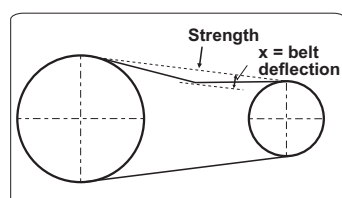

FIGURE 1
- Line up the motor's pulley with the compressor's flywheel and adequately stretch the transmission belts, as shown in Figures 1 and 2 (the belt deflects (x) from 9 to 13 mm [3/8" to 1/2"] in its medium point under manual strength).
Loose or unaligned belt(s).	Adjust it (them) according to Figures 1 and 2.